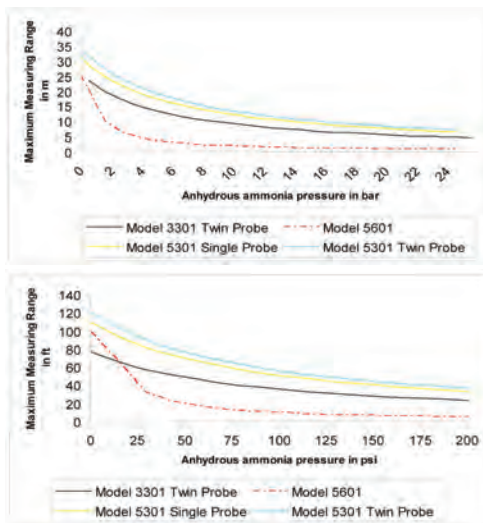

Figure 5.17.1: Measuring range graph
1. Larger chilled tanks, 33-75 feet (10-23 m) high, with temperatures approximately -40 °F (40 °C) and with pressure up to 29 psig (2 bar). In these applications, the 3301, 5301 or the 5601 can be used (see figure 5.17.1: Measuring range graph)